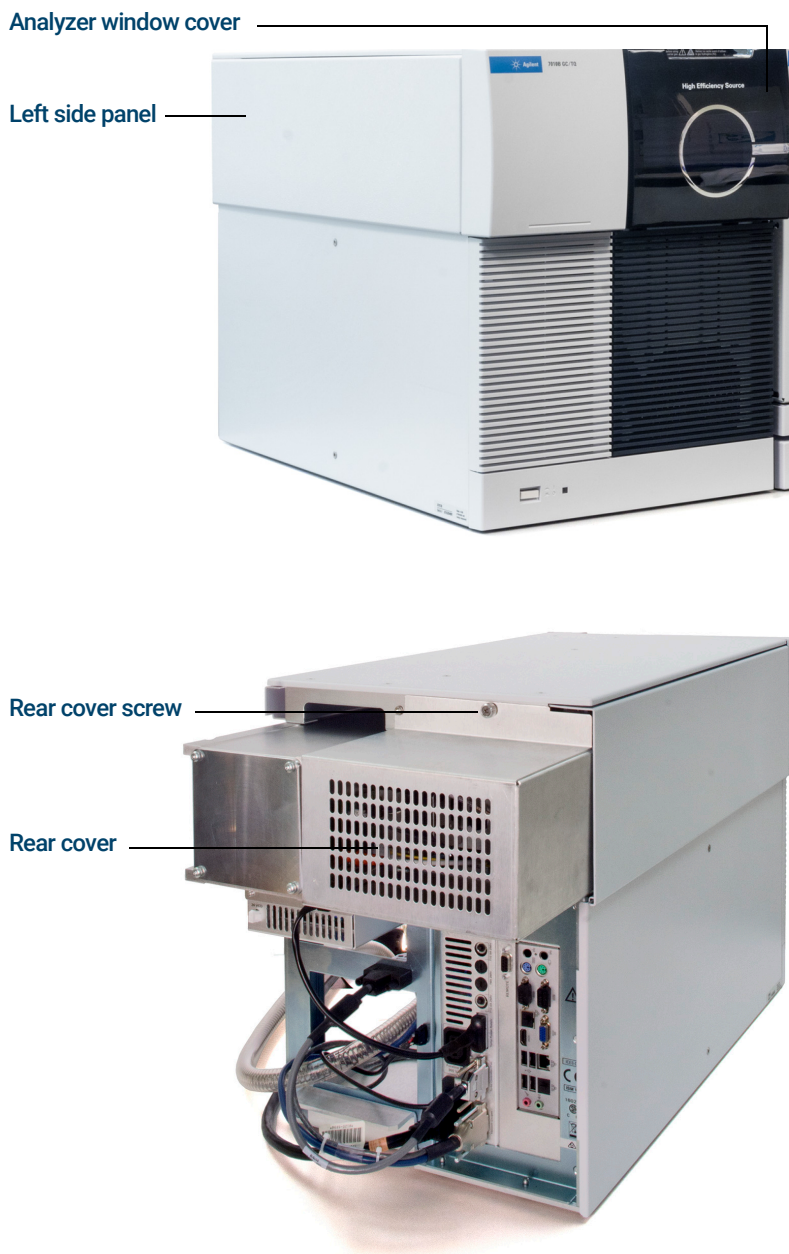

Figure 64. Removing covers
The rear cover should be removed to open the rear analyzer side plate. This is necessary when replacing the electron multiplier horn. If you need to access the rear analyzer chamber, follow these procedures to remove the rear cover. (See **Figure 64** on page 197.)
- 1 Loosen the top screw of the rear cover. It is captive so you will not be able to remove it entirely. (See **Figure 64** on page 197.)